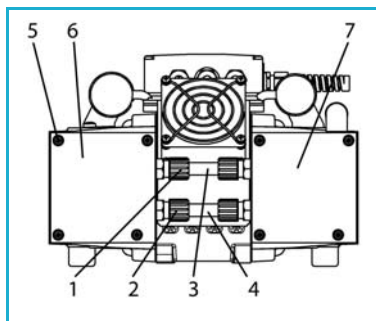
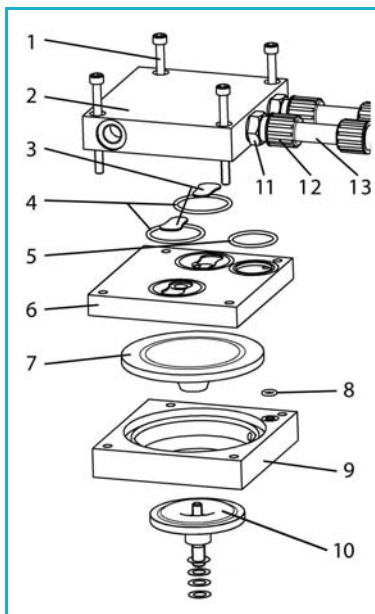
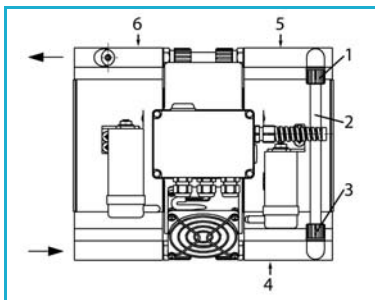
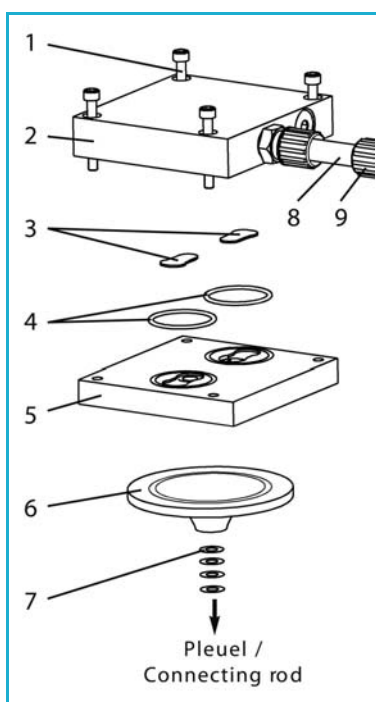

Fig. 9: Removing pump head (example N 940.5 APE)
Fig. 10: Replacing molded diaphragm and valve plates (1. and 2. pump head).
Fig. 12: Pneumatic connection between pump heads 2 and 3 (Example N 940.5 APE)
Fig. 13: Replacing molded diaphragm and valve plates (3. and 4. pump head)
| Molded diaphragm | (7) in fig. 10, (6) in Fig. 13 | 4        |
| Valve plate      | (3) in fig. 10 and 13          | 8        |
| O-ring d 32 mm   | (4) in fig. 10 and 13          | 8        |
| O-ring d 26 mm   | (5) in fig. 10                 | 2        |
| O-ring d 5.5 mm  | (8) in fig. 10                 | 2        |
1. At the pneumatic connections (3, fig. 9) and (4) between the first and second pump head: Use pliers to loosen union nuts (1) and (2) by turning them counterclockwise.
2. At the first pump head (6, fig. 9) mark the position of head plate (2, fig. 10), intermediate plate (6) and adapter (9) relative to each other by a drawing line with a felt-tip pen. This helps to ensure proper assembly.
3. At the first pump head unscrew the four screws (1, fig. 10) and remove the head plate (2). Intermediate plate (6) is visible.
4. Take off intermediate plate (6) from adapter (9).
**i** Second pump head: See position (4) in fig. 9.
Additional step: At the pneumatic connection between pump heads 2 and 3 (2, fig. 12) use pliers to turn union nuts (1) and (3) counterclockwise, thereby loosening them.
Then use pliers to securely tighten (turn in clockwise direction) the two union nuts (**12**, fig. 10) at the two pneumatic connections (**13**) between pump heads 1 and 2.
1. At the pneumatic connections (**2**, fig. 12) between the second (**4**) and third (**5**) pump head: Use pliers to loosen union nuts (**1**) and (**3**) by turning them counterclockwise.
2. At the third pump head (**5**, fig. 12) mark the position of head plate (**2**, fig. 13), intermediate plate (**5**) and pump housing relative to each other by a drawing line with a felt-tip pen. This helps to ensure proper assembly.
3. At the third pump head unscrew the four screws (**1**, fig. 13) and remove the head plate (**2**). Intermediate plate (**5**) is visible.
5. Lay the two new O-rings (**4**, fig. 13) in the seats of intermediate plate (**5**).
1. Place the intermediate plate (5) with valve plates (3) and O-rings (4) on the pump housing in accordance with the felt-tip pen marking.
2. Place the head plate (2) on the intermediate plate (5) in accordance with the felt-tip pen marking. In doing so, pull the pneumatic connections (2, fig. 12) onto the two screw fittings in the head plate of the second pump head (4) and the third pump head (5). Do not yet tighten the union nuts (1) and (3).
3. Make sure that the pump housing, intermediate plate (5, fig. 13), and head plate (2) are flush with each other.
4. Tighten the four screws (1) diagonally hand-tight.
5. Use pliers to securely tighten (turn in clockwise direction) the two union nuts (1, fig. 12) and (3) at the pneumatic connection between pump heads 2 and 3.
**i** Fourth pump head: See position (6) in fig. 12.
Then use pliers to securely tighten (turn in clockwise direction) the union nuts (9, fig. 13) at the two pneumatic connections (8) between pump heads 3 and 4.
| Molded diaphragm | (7) in fig. 10,(6) in fig. 13 | 112089    |